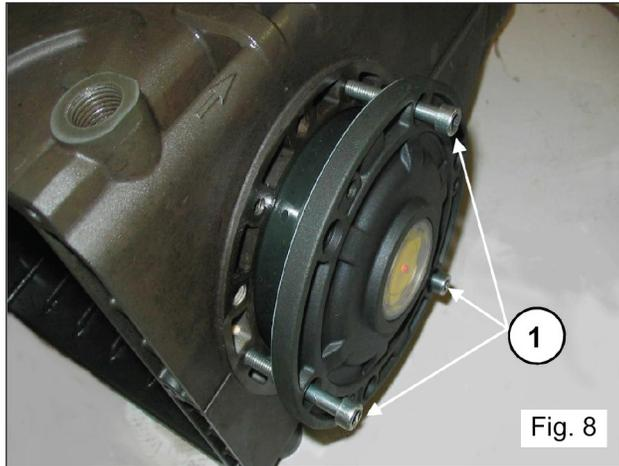

Fig. 8
To facilitate filling of the first section and relative press fitting the covers on the crankcase, we recommend using 3 partially threaded M6 x 40 screws (fig. 8, pos. 1) to then complete the operation with the screws supplied
To position the two side covers on the crankcase, initially use 3 M6x40 screws as shown in fig. 8, and then the fastening screws.